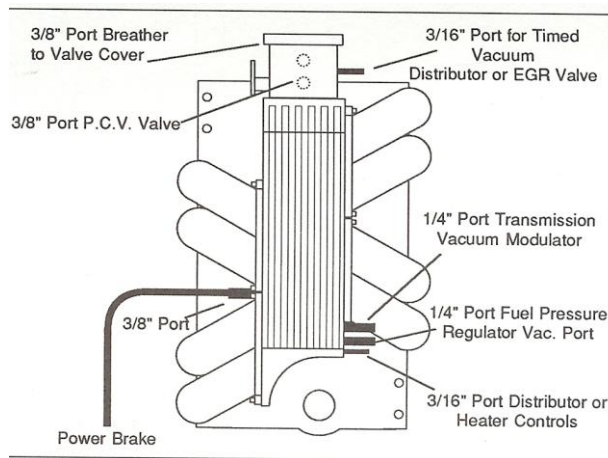

Figure 2
- c) Late ported vacuum becomes active as the throttle is opened further. (See Figure 2, next page)